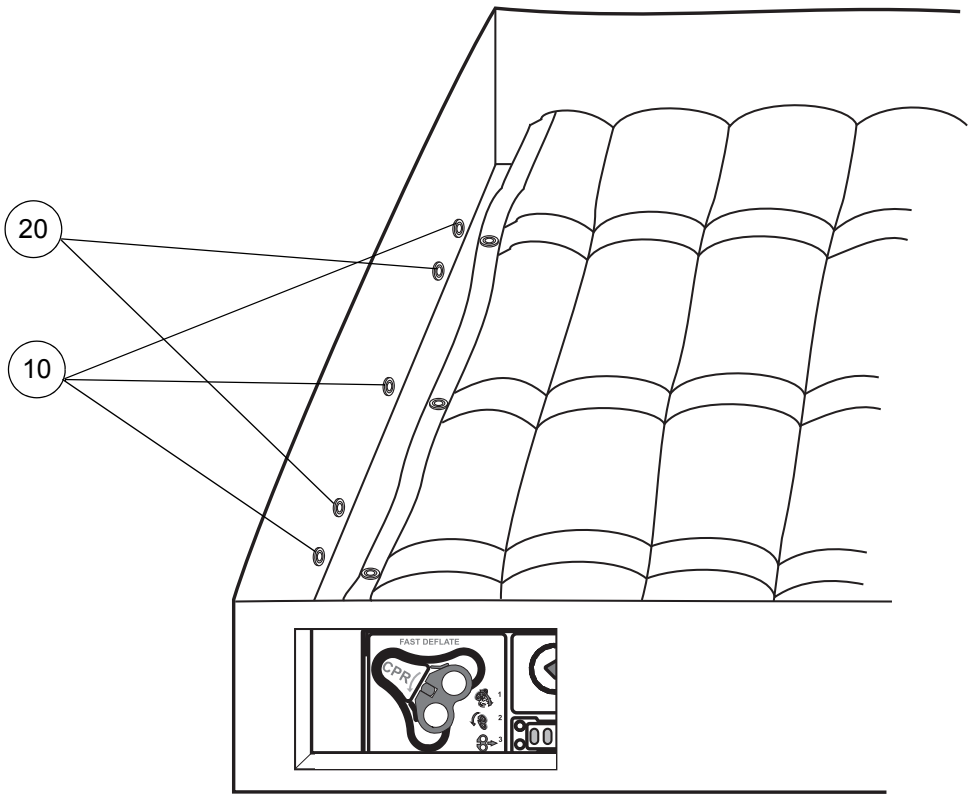
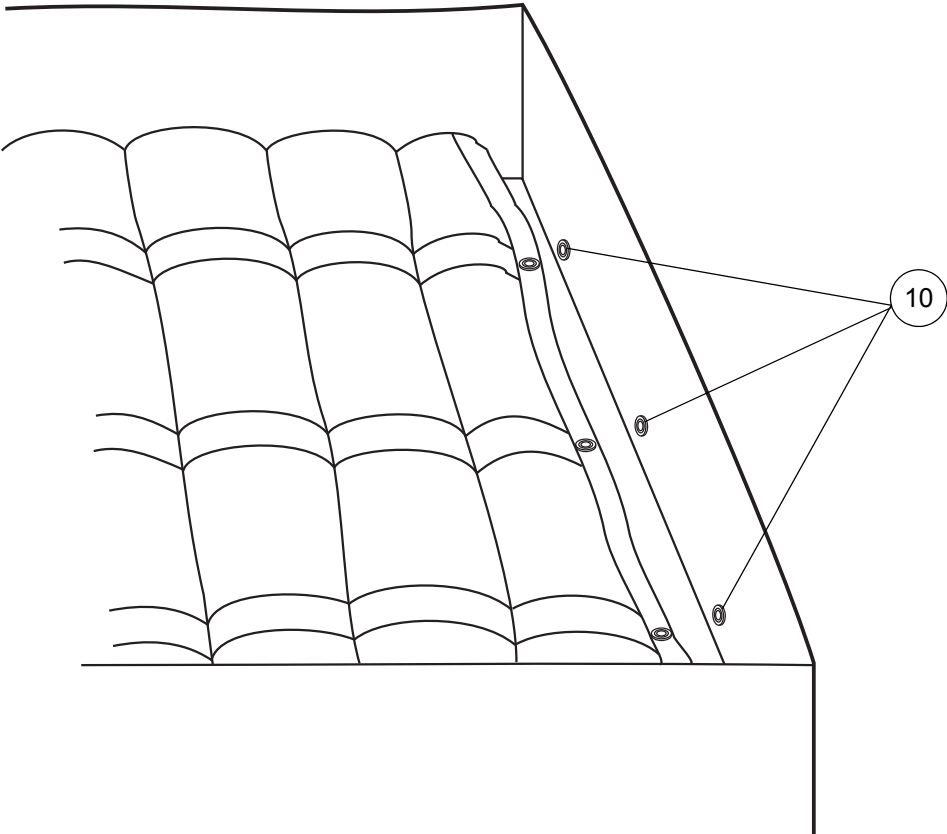
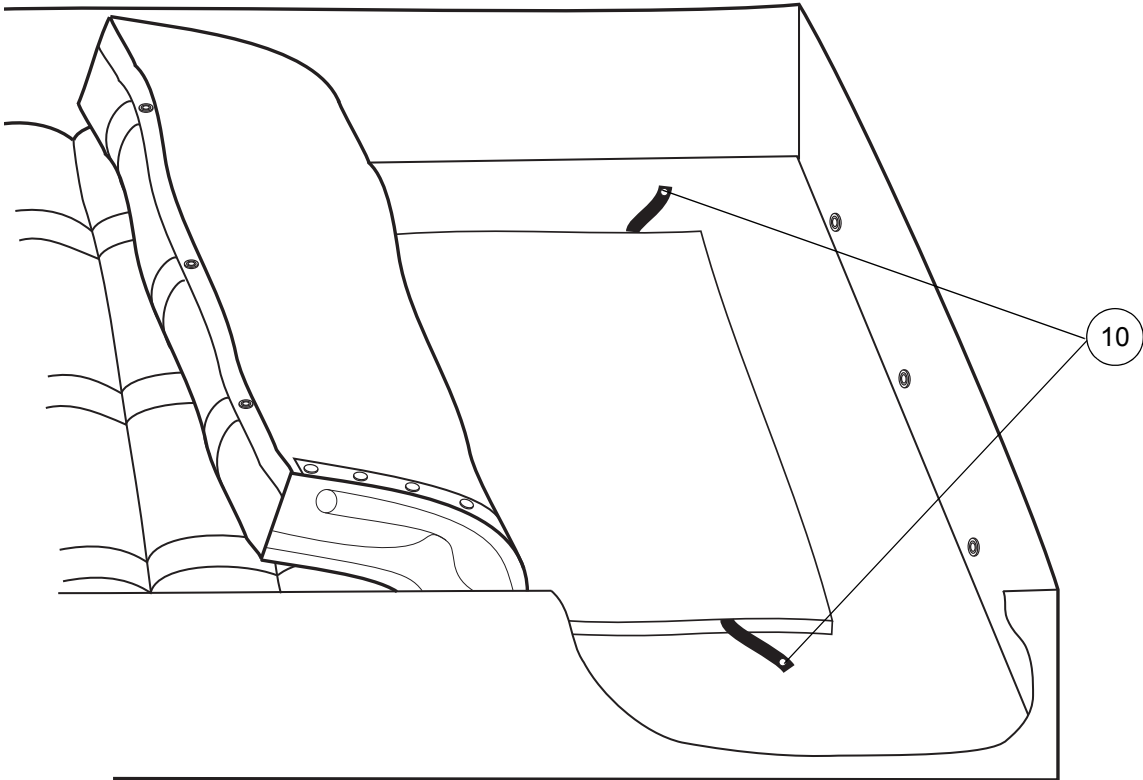

Figure 28 - Disconnecting the pop studs at the foot end of the mattress
Figure 29 - Disconnecting pop studs at the head end of the mattress
Figure 30 - Disconnecting the sensor assembly at the head end
- 4.6 Disconnect the three pop studs at the foot of the mattress (Fig 28, Item 10) and the three pop studs at the head of the mattress (Fig 29, Item 10) which connect the cell loop sheet to the base of the mattress.
- 4.7 Fold back the mattress cell assembly. Disconnect the two pop studs (Fig 30, Item 10) which connect the Auto Matt assembly at the head end.
- 4.8 Disconnect the two pop studs (Fig 28, Item 20) which connect the Auto Matt assembly at the foot end.
- 5.5 Secure the cell assembly with the three pop studs at the head end and the three pop studs at the foot end (Fig 29, Item 10 and Fig 30, Item 20).
- 9.6 Disconnect the three pop studs (Fig 28, Item 10) which connect the cell loop sheet to the base cover at the foot end of the bed.
- 10.2 Connect the Lower pop studs (Fig 28, Item 10).